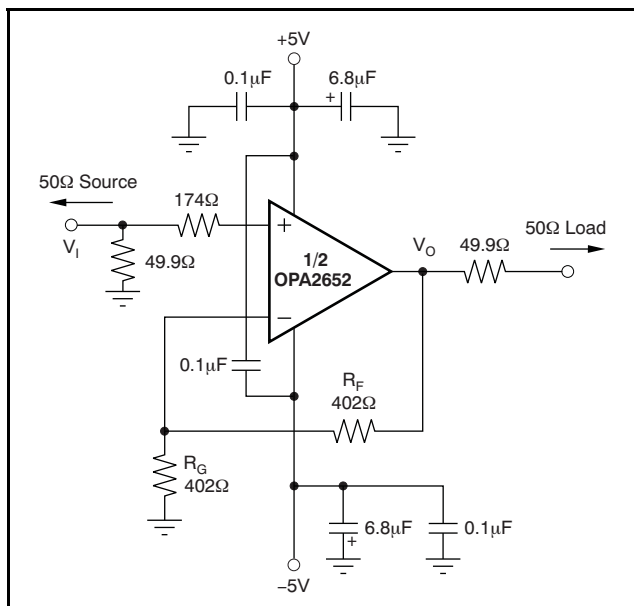
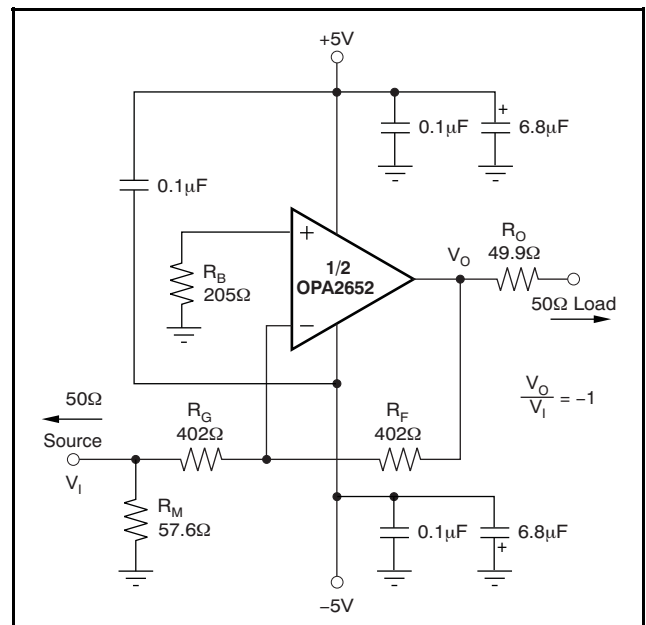

Figure 28. DC-Coupled, $G = +2$, Bipolar Supply, Specification and Test Circuit
Figure 29. DC-Coupled, $G = -1$, Bipolar Supply, Specification and Test Circuit
At $T_A = +25^\circ\text{C}$, $G = +2$, $R_F = 402\Omega$, and $R_L = 100\Omega$, unless otherwise noted. See Figure 28 and Figure 29 for AC performance only.
At $T_A = +25^\circ C$, $G = +2$, $R_F = 402\Omega$, and $R_L = 100\Omega$, unless otherwise noted. See Figure 28 and Figure 29.
At $T_A = +25^\circ\text{C}$, $G = +2$, $R_F = 402\Omega$, and $R_L = 100\Omega$, unless otherwise noted. See Figure 28 and Figure 29.
Figure 28 shows the DC-coupled, gain of +2, dual power-supply circuit configuration used as the basis of the $\pm 5\text{V}$ specifications and typical characteristics. This configuration is for one channel. The other channel is connected similarly. For test purposes, the input impedance is set to 50Ω with a resistor to ground and the output impedance is set to 50Ω with a series output resistor.
Voltage swings reported in the specifications are taken directly at the input and output pins, while output powers (dBm) are at the matched 50Ω load. For the circuit of Figure 28, the total effective load will be $100\Omega \parallel 804\Omega$. Two optional components are included in Figure 28.
Figure 29 shows the DC-coupled, gain of -1 , bipolar supply circuit configuration that is the basis of the specifications and typical characteristics at $G = -1$. The input impedance matching resistor (57.6Ω) used for testing gives a 50Ω input load. A resistor (205Ω) connects the noninverting input to ground. This configuration provides the DC source resistance matching to cancel outputs errors arising from input bias current.
A good rule of thumb is to target the parallel combination of R_F and R_G (see Figure 28) to be less than approximately 300Ω. The combined impedance $R_F \parallel R_G$ interacts with the inverting input capacitance, placing an additional pole in the feedback network, and thus a zero in the forward response. Assuming a 2pF total parasitic on the inverting node, holding $R_F \parallel R_G < 300\Omega$ keeps this pole above 250MHz. By itself, this constraint implies that the feedback resistor R_F can increase to several kΩ at high gains. This increase is acceptable as long as the pole formed by R_F and any parasitic capacitance appearing in parallel is kept out of the frequency range of interest.
Voltage feedback op amps exhibit decreasing closed-loop bandwidth as the signal gain is increased. In theory, this relationship is described by the Gain Bandwidth Product (GBP) shown in the specifications. Ideally, dividing GBP by the noninverting signal gain (also called the Noise Gain, or NG) predicts the closed-loop bandwidth. In practice, this prediction only holds true when the phase margin approaches 90°, as it does in high gain configurations. At low gains (increased feedback factor), most amplifiers exhibit a wider bandwidth and lower phase margin. The OPA2652 is compensated to give a flat response in a noninverting gain of 1 (see Figure 28). This configuration results in a typical gain of +1 bandwidth of 700MHz, far exceeding that predicted by dividing the 200MHz GBP by NG = 1. Increasing the gain
Because the OPA2652 is a general-purpose, wideband voltage feedback op amp, all of the familiar op amp application circuits are available to the designer. Inverting operation is one of the more common requirements and offers several performance benefits. Figure 29 shows a typical inverting configuration.
In the inverting configuration, three key design consideration must be noted. First, the gain resistor (R_G) becomes part of the signal channel input impedance. If input impedance matching is desired (which is beneficial whenever the signal is coupled through a cable, twisted pair, long PCB trace or other transmission line conductor), R_G may be set equal to the required termination value and R_F adjusted to give the desired gain. This approach is the simplest, and results in optimum bandwidth and noise performance. However, at low inverting gains, the resulting feedback resistor value can present a significant load to the amplifier output. For an inverting gain of –1, setting R_G to 50Ω for input matching eliminates the need for R_M but requires a 50Ω feedback resistor. This configuration has the interesting advantage that the noise gain becomes equal to 2 for a 50Ω source impedance—the same as the noninverting circuits considered above. However, the amplifier output now sees the 50Ω feedback resistor in parallel with the external load. In general, the feedback resistor should be limited to the 200Ω to 1.5kΩ range. In this case, it is preferable to increase both the R_F and R_G values as shown in Figure 29, and then achieve the input matching impedance with a third resistor (R_M) to ground. The total input impedance becomes the parallel combination of R_G and R_M .
The second major consideration, touched on in the previous paragraph, is that the signal source impedance becomes part of the noise gain equation and influences the bandwidth. For the example in Figure 29, the R_M value combines in parallel with the external 50Ω source impedance, yielding an effective driving impedance of $50\Omega \parallel 57.6\Omega = 26.8\Omega$. This impedance is added in series with R_G for calculating the noise gain (NG). The resulting NG is 1.94 for Figure 29 (an ideal source would cause NG = 2.00).
error, as a result of the input bias currents, is reduced to (Input Offset Current) • R_F . If the 50Ω source impedance is DC-coupled in Figure 29, the total resistance to ground on the inverting input will be 429Ω . Combining this in parallel with the feedback resistor gives 208Ω , which is close to the $R_B = 205\Omega$ used in Figure 29. To reduce the additional high-frequency noise introduced by this resistor, it is sometimes bypassed with a capacitor. As long as $R_B < 300\Omega$, the capacitor is not required since its total noise contribution is much less than that of the op amp input noise voltage.
The OPA2652 provides good distortion performance into a 100Ω load on $\pm 5V$ supplies. Increasing the load impedance improves distortion directly. Remember that the total load includes the feedback network; in the noninverting configuration (Figure 28), this is sum of $R_F + R_G$, while in the inverting configuration, it is only R_F . Also, providing an additional supply decoupling capacitor ($0.1\mu F$) between the supply pins (for bipolar operation) improves the 2nd-order distortion slightly (3dB to 6dB).
Evaluating these two equations for the OPA2652 circuit and component values shown in Figure 28 gives a total output spot noise voltage of $17\text{nV}/\sqrt{\text{Hz}}$ and a total equivalent input spot noise voltage of $8.4\text{nV}/\sqrt{\text{Hz}}$. This noise includes the noise added by the bias current cancellation resistor (205Ω) on the noninverting input. This total input-referred spot noise voltage is only slightly higher than the $8\text{nV}/\sqrt{\text{Hz}}$ specification for the op amp voltage noise alone. This result will be the case as long as the impedances appearing at each op amp input are limited to the previously recommend maximum value of 300Ω . Keeping both $(R_F \parallel R_G)$ and the noninverting input source impedance less than 300Ω satisfies both noise and frequency response flatness considerations. Since the resistor-induced noise is relatively negligible, additional capacitive decoupling across the bias current cancellation resistor (R_B) for the inverting op amp configuration of Figure 29 is not required.
The balanced input stage of a wideband voltage feedback op amp allows good output DC accuracy in a wide variety of applications. Although the high-speed input stage does require relatively high input bias current (typically $4\mu\text{A}$ out of each input terminal), the close matching between them may be used to significantly reduce the output DC error caused by this current. This reduction is done by matching the DC source resistances appearing at the two inputs. This matching reduces the output DC error resulting from the input bias currents to the offset current times the feedback resistor. Evaluating the configuration of Figure 28, using worst-case $+25^\circ\text{C}$ input offset voltage and current specifications, gives a worst-case output offset voltage equal to:
As an example, compute the maximum T_J using an OPA2652E (SOT23-8 package) in the circuit of Figure 28 operating at the maximum specified ambient temperature of +85°C and with both outputs driving 2.5V_{DC} into a grounded 100Ω load.